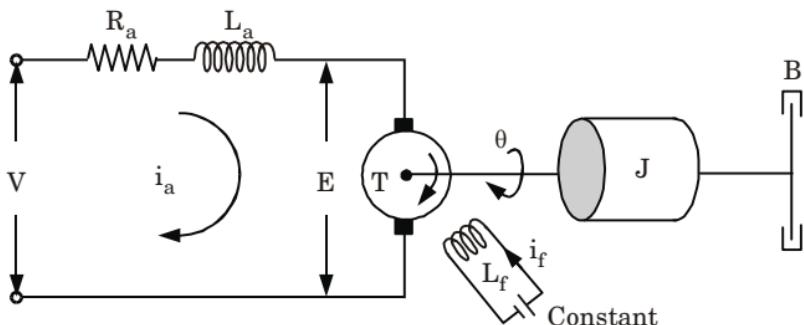

Fig. 12.
- Consider the armature controlled DC motor (DC servo motor) and assume that the demagnetizing effect of armature reaction is neglected, field voltage is constant and magnetic circuit is linear. Armature controlled DC servo motor is shown in Fig. 12.